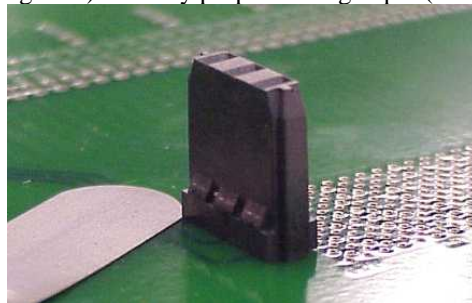

Figure 4 - Verifying Proper Seating with Feeler Gauge Stock
Step 8 Pull handle of press down manually until module seats. Use one piece of 0.005 gauge shim or Feeler stock (see Figure 4) to verify proper seating depth (0.005).